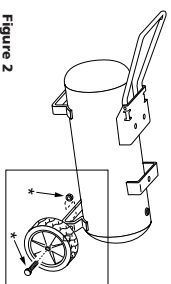

Figure 2
- The items marked with an asterisk (*) in Figure 2 were shipped loose with the unit. Assemble as follows: